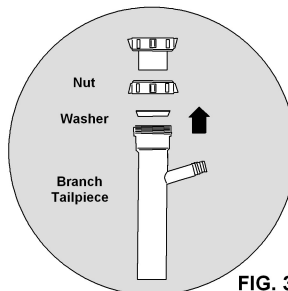

FIG. 3
4. Install branch tailpiece of ET113-002 drain line adapter to the end of flanged tailpiece under the sink using provided washer and wing nut. (See Fig. 3)